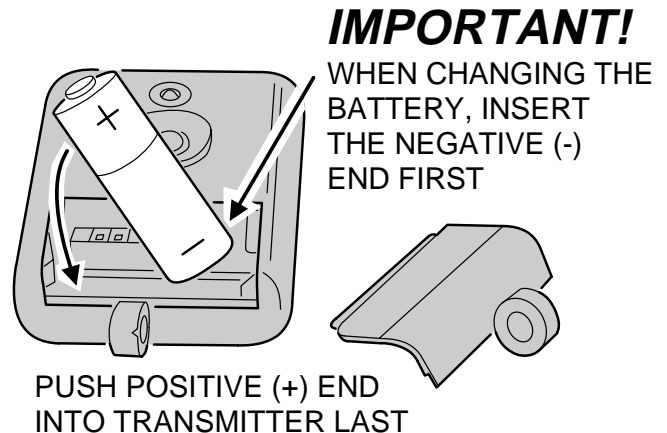

Figure 2. Proper Installation of Battery
Step 3: Install a fresh battery as shown in Figure 2. Replace the transmitter battery door.